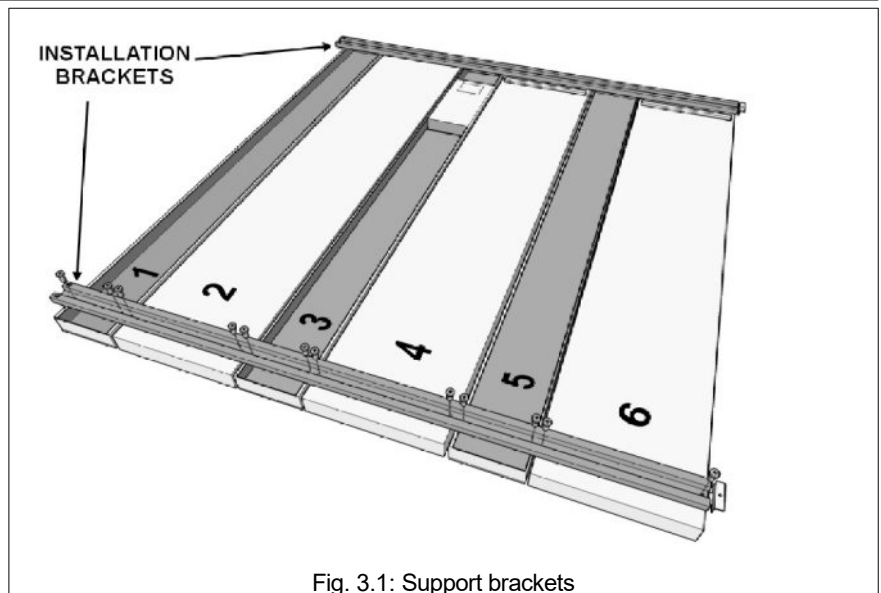

Fig. 3.1: Support brackets
2. We suggest placing protective material such as cardboard on the floor to serve as a base for assembling the board. Place the modules face down on the floor and in numerical order from top to bottom (Fig. 3.1), in order to assemble the desired panel (see various models on page 2).
3. Position the two brackets over the modules and align the holes; using a Phillips screwdriver and the screws provided, firmly attach the brackets to the modules (see Fig. 3.1).